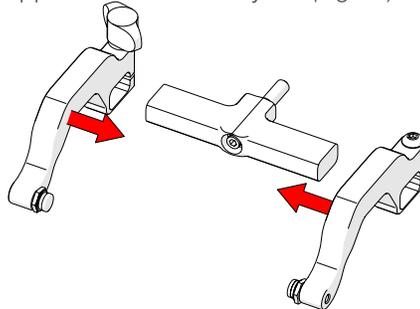

Fig. 119 - Place arms back onto yoke
6. Place the probe holder arms on the yoke and tighten the arm clamp screw and probe holder adjustment knob (Fig. 119).